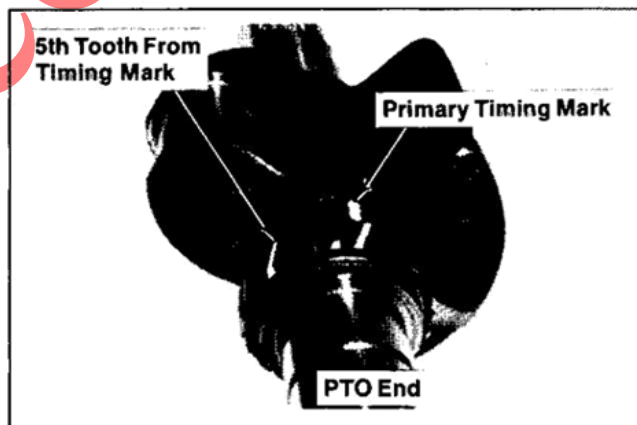

Figure 12-18. Marking Tooth On Crankshaft Gear.
**Crankshaft** - Locate the primary timing mark on crankshaft. While looking at the PTO end of crankshaft, start with the tooth directly below timing mark and count **five (5)** teeth in a **counterclockwise** direction. Mark the fifth tooth. Refer to Figure 12-18.